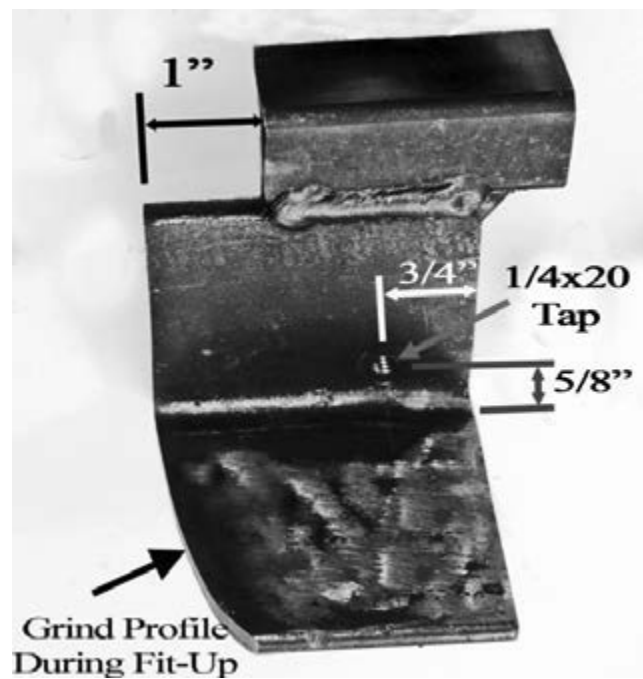

Figure 9
- 5) On a welding table’s edge place angle down the angle iron Mounting Bracket and locate Lock Bar Guide extended 1” and weld (Figure 9). Locate Lock Lever’s pivot: $\frac{5}{8}$ ” above and $\frac{3}{4}$ ” from outside corner, with #8 bit drill then tap $\frac{1}{4}$ ”x20 tpi.
- c) Outline with a “Sharpie” pen the Mounting Bracket’s position on Top Plate; also, mark horizontal overhang on Mounting Bracket; remove then grind away overhang (Figure 9).
- a) Mark two (2) mounting locations on Mounting Bracket base.
- c) Center Punch mounting locations on Mounting Bracket and with a Letter Q bit (a $\frac{3}{8}$ ”x24 tpi tap drill) bore two (2) holes;
- e) Maintaining Table Lock Mechanism firmly clamped position on the Top Plate remove Hub/Spindle & Table Platform sub-assembly. With the Mounting Bracket as a drill jig bore using a Letter Q bit two (2) mounting holes in the Top Plate.
- f) Remove the Table Lock Mechanism and tap $\frac{3}{8}$ ”x24 tpi the Top Plate’s two (2) holes.
- g) Enlarge Mounting Bracket’s existing two (2) Letter Q holes to clear $\frac{3}{8}$ ”x24 tpi mounting bolts (Item g) by boring with a $\frac{3}{8}$ ” drill.